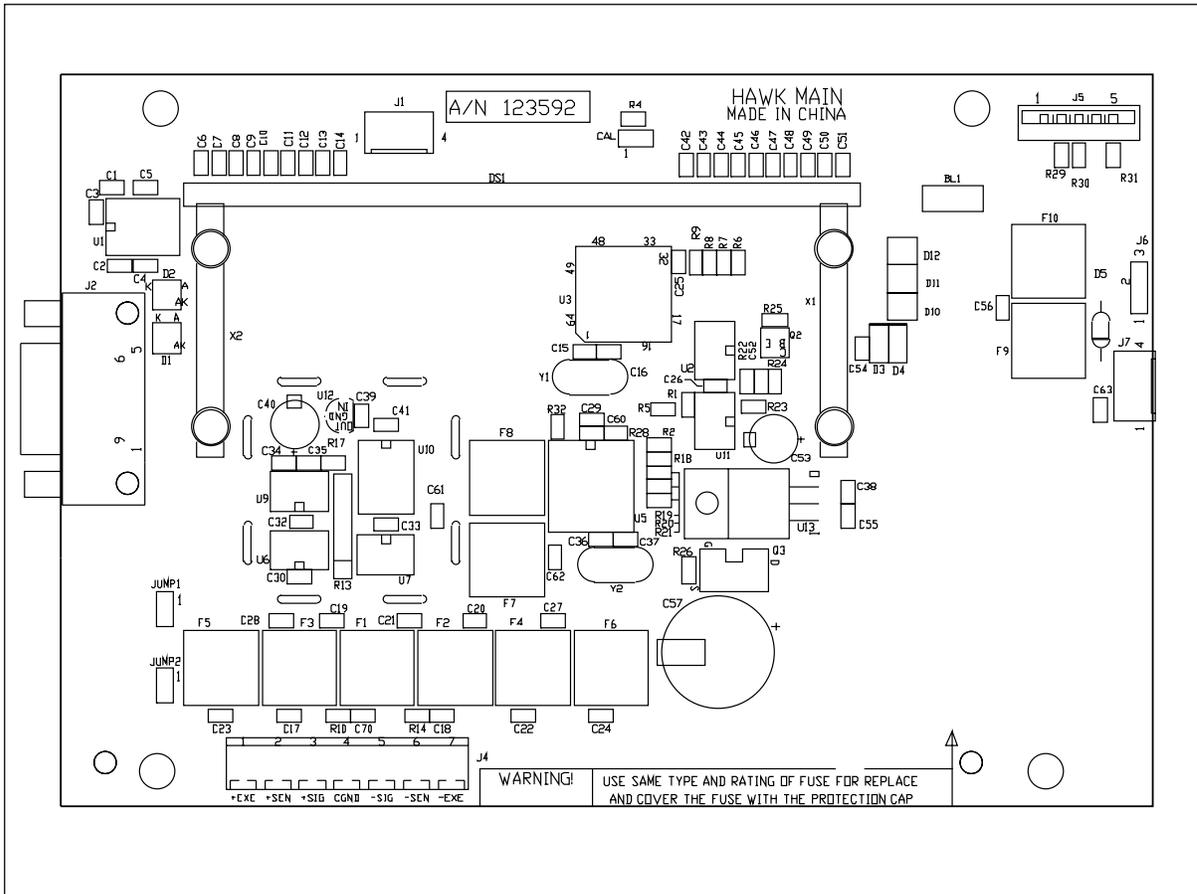

Figure 5-2. Main PC Board, Component Layout Drawing.
2. Remove the four screws (B2) from the Base (6).
3. Carefully separate the Top Cover (2) and Base (6).
5. Remove the four screws (B2) from the Main PC board (3). See Figure 5-2.